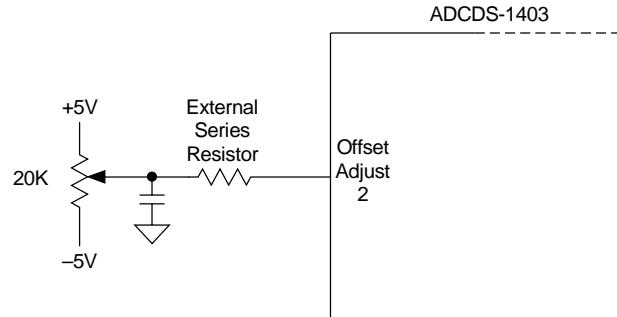
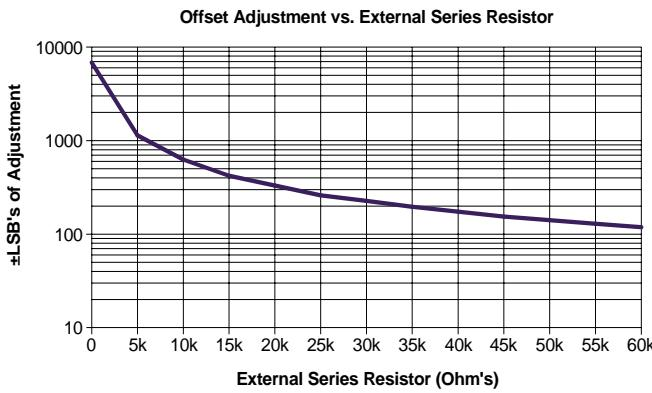

Figure 3. Offset Adjustment Circuit
Figure 6. Offset Adjustment vs. External Series Resistor
3. If using the suggested offset and gain adjust circuits (Figure 3 & 5), place them as close to the ADCDS-1403's package as possible.
Manual offset adjustment for the ADCDS-1403 can be accomplished using the adjustment circuit shown in Figure 3. A software controlled D/A converter can be substituted for the 20K $\Omega$  potentiometer. The offset adjustment feature allows the user to adjust the Offset/Dark Current level of the ADCDS-1403 until the output bits are 00 0000 0000 0000 and the LSB flickers between 0 and 1. Offset adjust should be performed before gain adjust to avoid interaction. The ADCDS-1403's offset adjustment is dependent on the value of the external series resistor used in the offset adjust circuit (Figure 3). The Offset Adjustment graph (Figure 6) illustrates the typical relationship between the external series resistor value and its offset adjustment capability utilizing  $\pm 5V$  supplies.